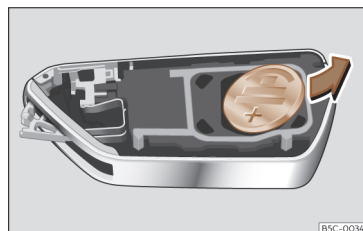

Fig. 70 Vehicle key: removing the battery.
- Remove the battery from the compartment with a suitable thin object >>> Fig. 70.
- Insert the new battery and press it into the battery compartment >>> ①.